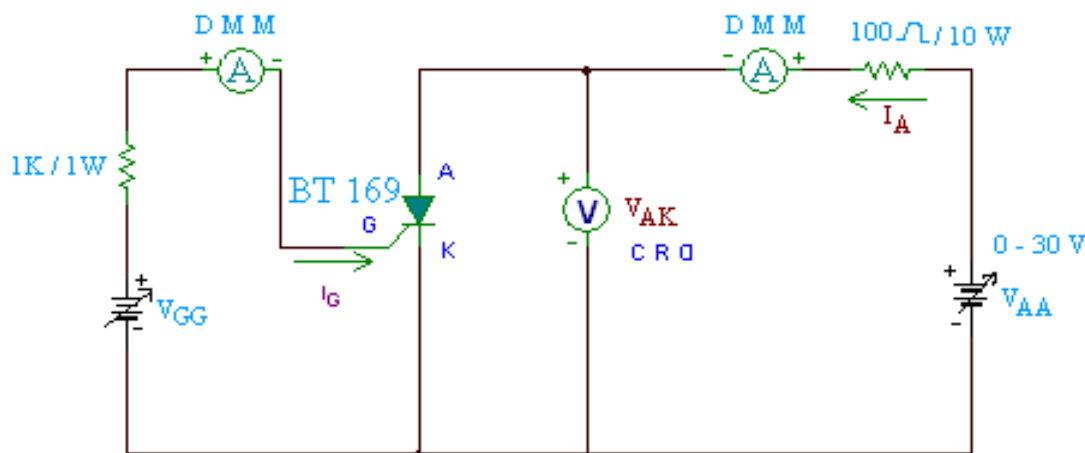

Fig 12.1 Circuit to Plot SCR Static Characteristics.
1. Connect the circuit in fig12.1.